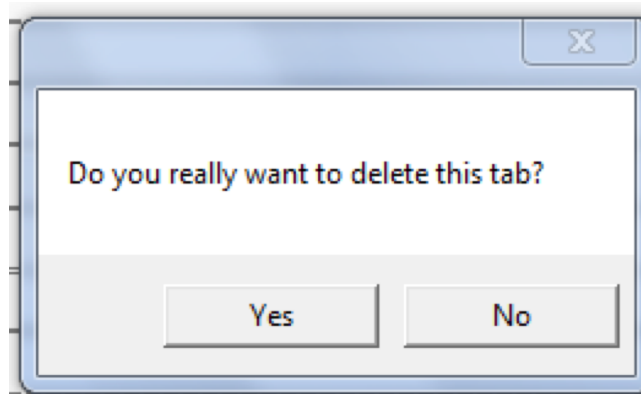

Figure 62
- 6) A confirmation dialogue box will appear (Figure 62).